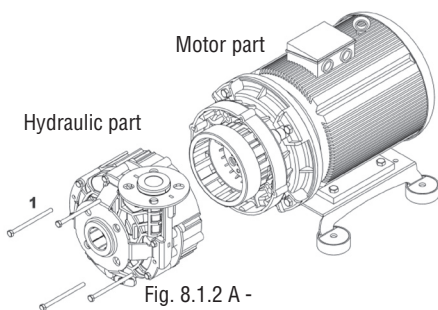

Fig. 8.1.2 A -
- Unscrew the connections (Fig. 8.1.2 A, Pos. 1) as described in the spare-parts list and remove the hydraulic parts from the motor parts.